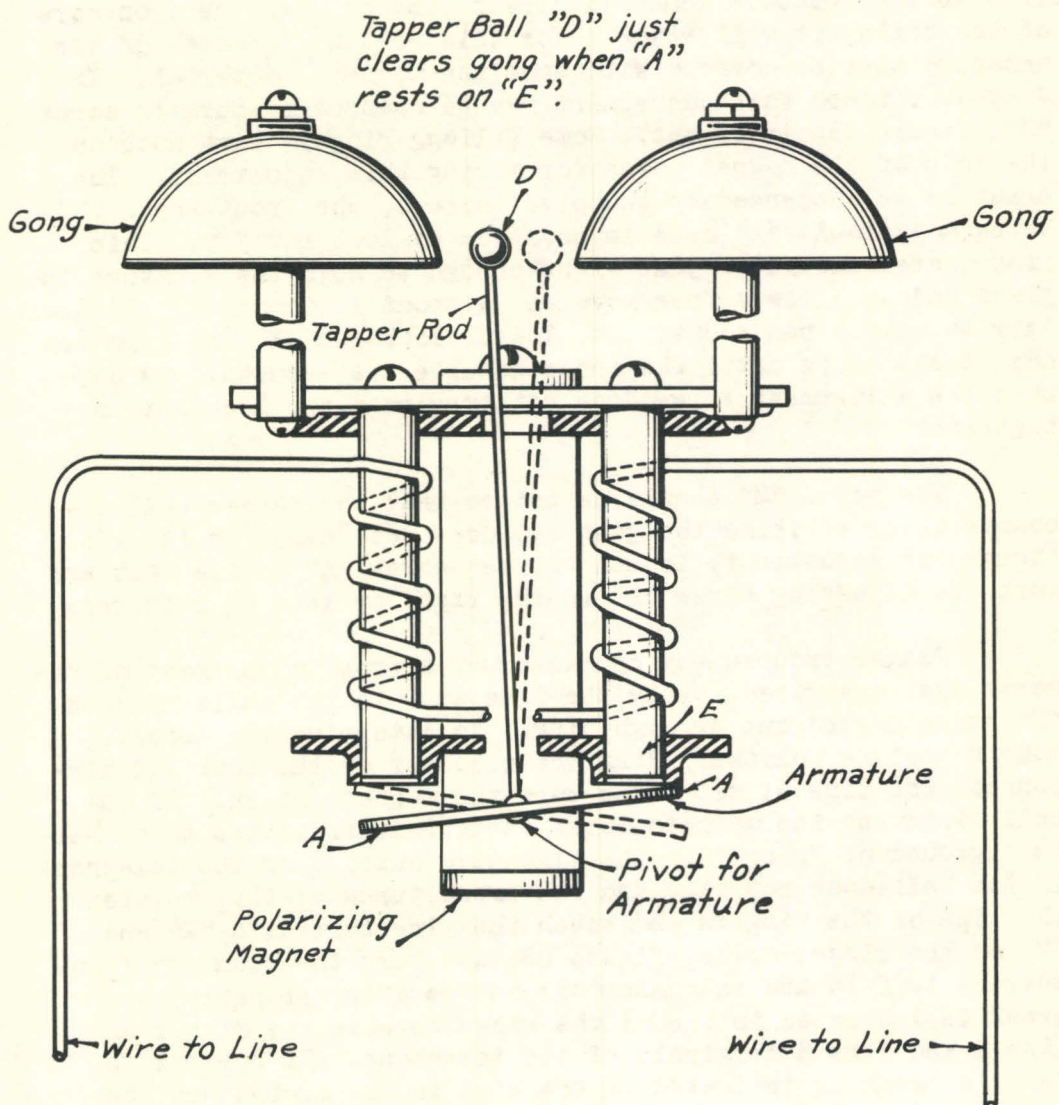

FIGURE 84
The four circuits in a magneto telephone with bridging circuits as shown in schematic diagram in figure 82, and the Kellogg ringer circuit, which is different from the Graybar as shown in figure 83; together with descriptive diagrams of each circuit as shown in figures 84, 85, 86, and 87, are as follows:
1. The bell or "ringer" circuit, figure 84, includes only the ringer coils.
The following adjustments of these parts must be made to secure proper results. The ends of the armature, A A in figure 84, to which the taper rod is attached should have a movement